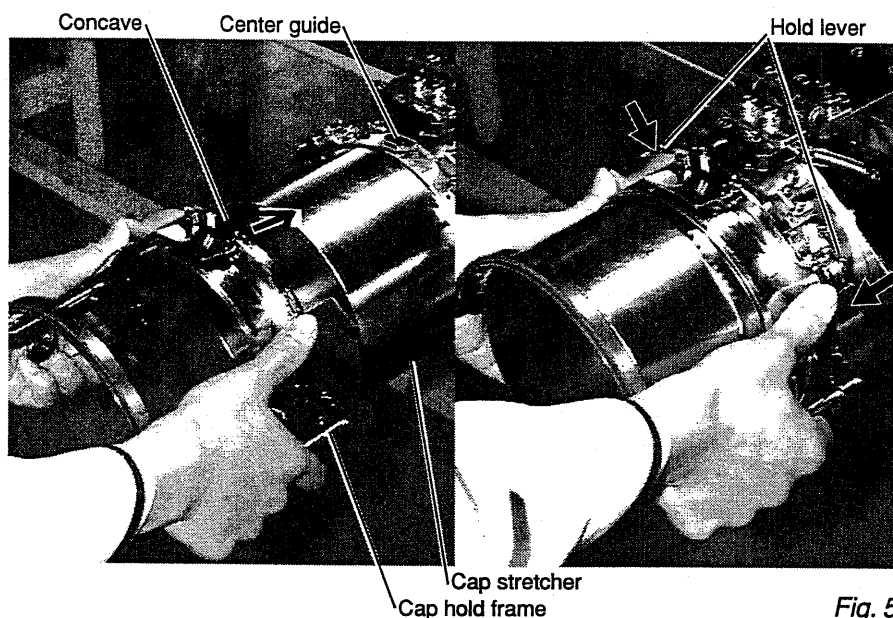

Fig. 5
- 2 As shown in Fig. 5, hold cap hold frame with both hands and place on cap stretcher. By pushing hold lever at 2 places in arrow marks with fingers, place cap hold frame so that center guide of cap stretcher gets in concave of upper cap hold frame.